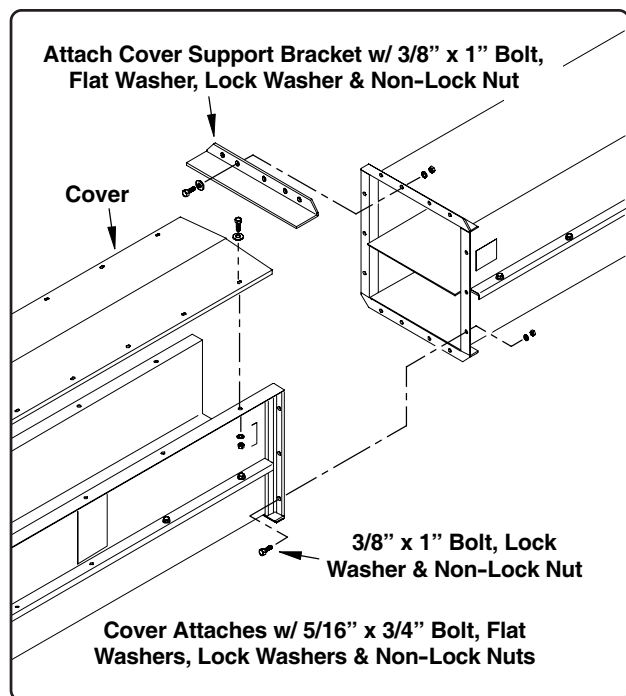

Fig. 9
4. A bolt-on cover trunk section can also be connected to a solid cover trunk as shown in Fig. 9 below. The trunks are connected using 3/8" x 1" bolts, lock washers and non-lock nuts.
5. A cover support bracket will need to be installed when making the bolt-on cover to solid cover connection (See Fig. 9). Secure the support bracket to the solid cover trunk section using 3/8" x 1" bolts, lock washers and non-lock nuts.